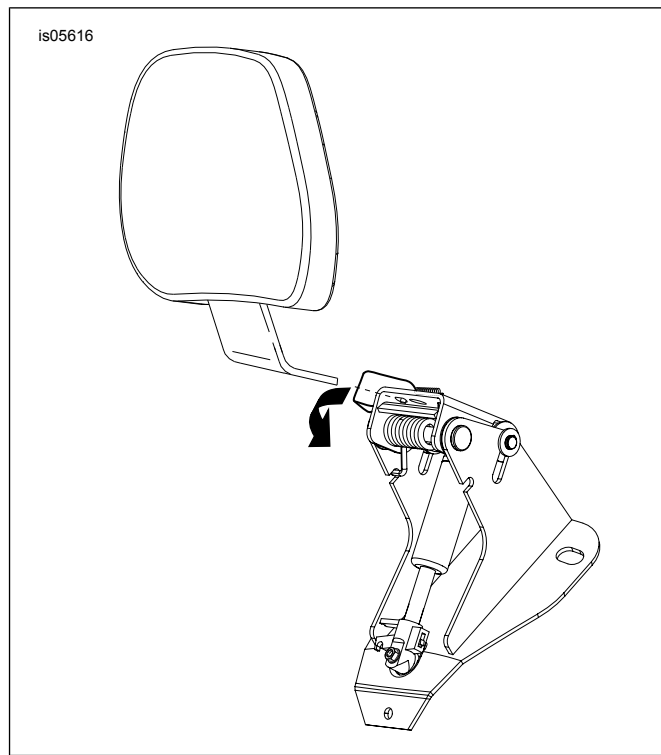

Figure 13. Installing Backrest
1. See Figure 13. Press on lever on backrest bracket as shown.